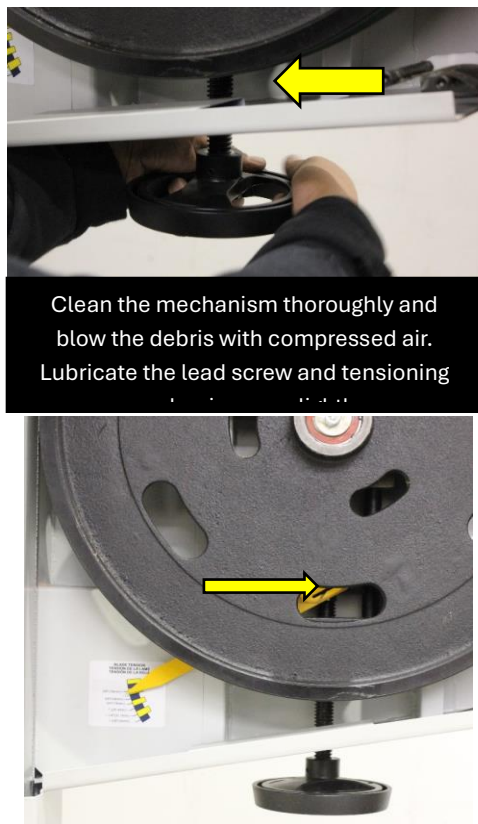

Figure 22: Blade Tension Mechanism Lubrication.
- 3- Clean the Assembly: Use a clean rag or cloth and mineral spirits to thoroughly wipe off any existing grease and sawdust buildup from the blade tension adjustment assembly mainly the lead screw (see Figure22). Ensure that these components are clean and free from debris; you may use an air compressor to clear the debris.